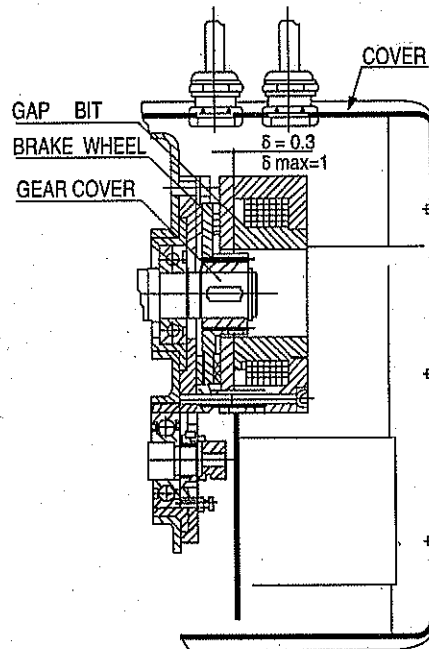

Figure 6 Check to Measure Brake Gap
7. Brake gap: Check the brake gap. When the brake gap has over its limit 0,3 to 1 mm, brake gap adjustment should be necessary, according to Fig. 6.